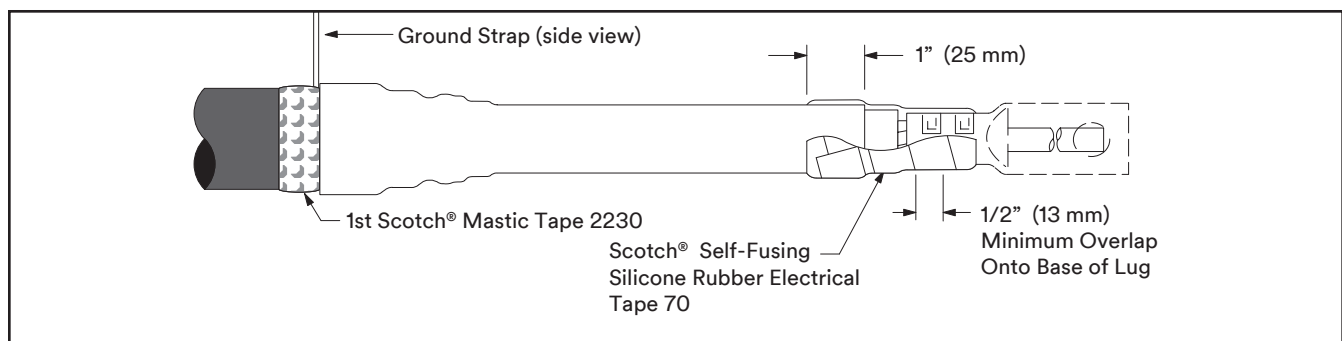

Figure 14
Apply 1 half-lapped layer of Scotch® Self-Fusing Silicone Rubber Electrical Tape 70 over at least 1/2" (13 mm) of lug barrel and onto the termination insulator for 1" (25 mm) (Figure 14).
- Bend the Ground Strap away from the cable jacket, towards the bottom of the installed termination body, to about a 90 degree angle. (Figure 14).
- Select a Scotch® Mastic Strip 2230 from kit and remove white release liners. Using light tension, apply a **SINGLE WRAP** of mastic around the cable jacket directly against the bottom of the termination body (Figure 14). Cut off excess.